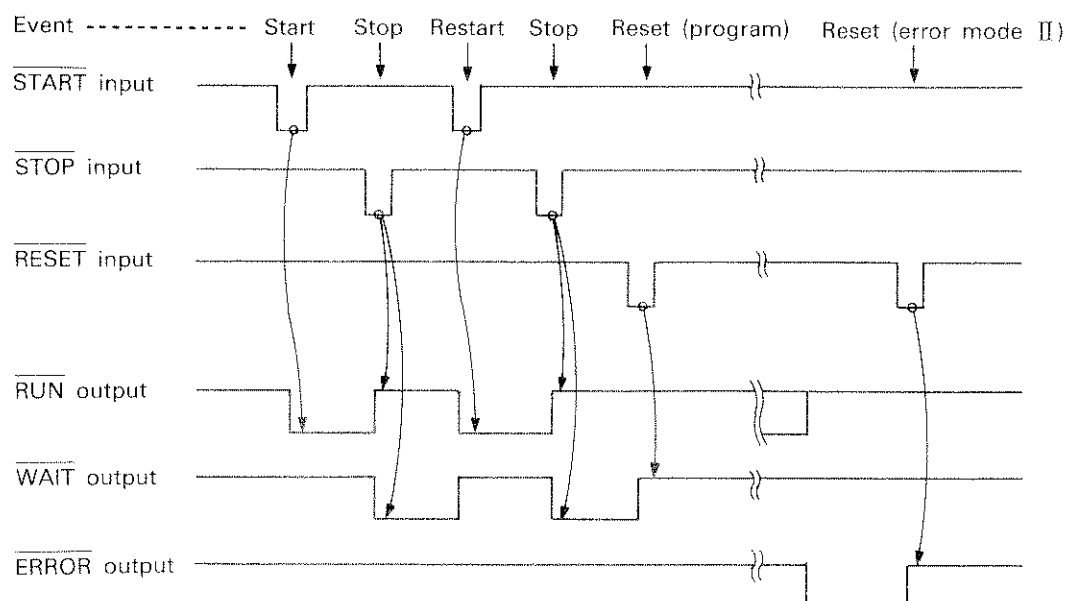

Fig. 5.3.5.A Dedicated I/O Timing
- (2) When the above settings have been made, drive unit front control switches are disabled except for the emergency stop switch.
- (3) In these settings, the program can be started, stopped, restarted, and reset (including resetting of error mode II) by means of dedicated input signals. The function of each dedicated input signal corresponds to that of the drive unit front control switch as follows.
- (4) Output from the dedicated outputs are the signals corresponding to the robot operating conditions (RUN, WAIT, and ERROR outputs). These signals are output in either setting, whether in external operation or front control switch operation mode. Fig. 5.3.5.A shows the dedicated I/O timing.